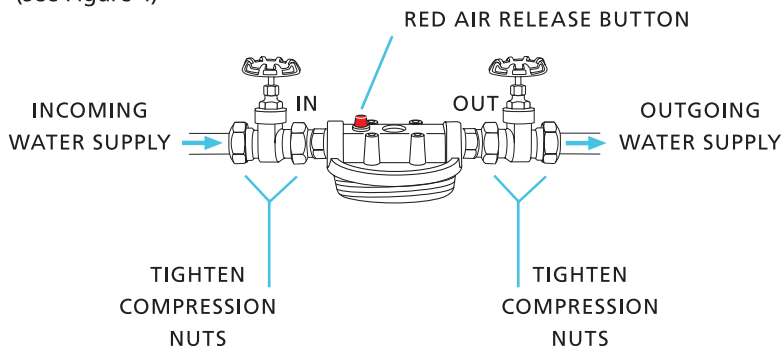

FIGURE 4
- 7** Fit filter head and gate shut-off valves onto pipe. Ensure the "IN" port with red air release button is connected to incoming water supply line. Tighten compression nuts on both sides of each valve four (4) locations. (See Figure 4)